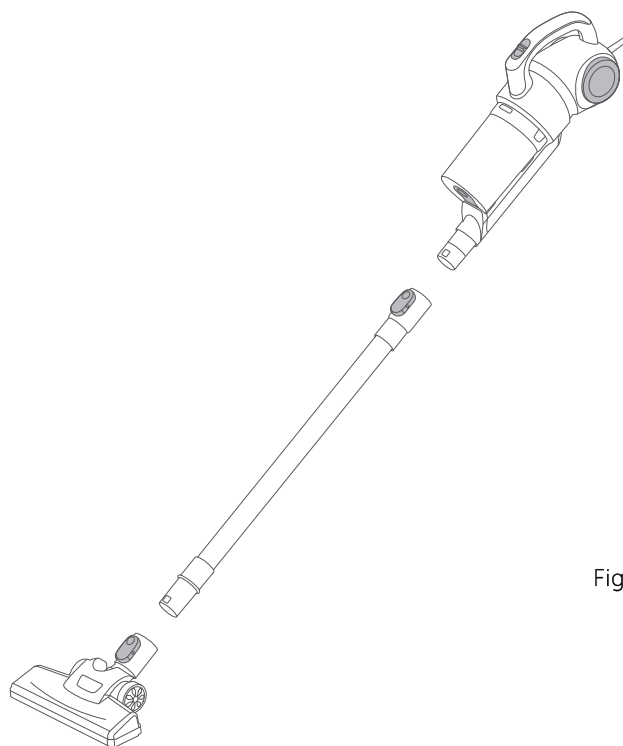

Fig. 8
1. Insert the extension tube onto the body of the vacuum as shown (fig. 8) and push to secure, a click will be heard.